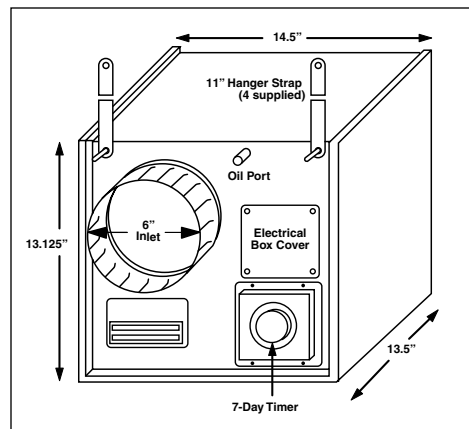

Figure 1
The Quiet-Vent has four vibration absorbing straps for hanging from joists, rafters, or trusses (See Fig. 1 & 3) and use (4) 1/4" diameter lag bolts or the equivalent. Locate the unit to minimize the ducting from the baths and kitchen to the Quiet-Vent inlets and from the Quiet-Vent outlet to the outside. Because the oiling system depends on gravity, the unit must be oriented with the hanger bolts on the top.
Although the motor is factory lubricated for many years of normal operation, additional oiling will extend motor life. To facilitate motor oiling, tubing from the motor extends outside the Quiet-Vent cabinet (See Fig. 1). Five to ten drops of SAE 20 Non-Detergent oil is recommended every six months.